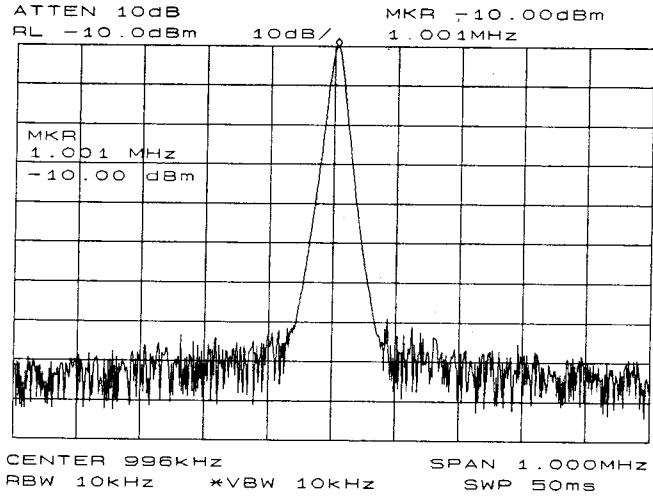

Figure 3-5. Input Signal Displayed in a 1 MHz Span
- Using the present setup, clear the markers from the screen by pressing **MKR**, then **MARKERS OFF**. Notice that when **MARKERS OFF** or **HOLD** is pressed, the display expands to the full size of the screen, for easier viewing. To measure the fundamental, press **PEAK SEARCH**, which activates a marker on the highest-level signal on-screen. Reduce the frequency span to 1 MHz by pressing **SPAN**, then **SPAN ZOOM** and entering 1 MHz. The span zoom function allows you to quickly “zoom” to a narrower frequency span without losing the signal from the screen (since signal track is activated). After the frequency span is reduced, turn off the signal-track function by pressing **MKR**, and setting **SIG TRK ON OFF** to OFF. Next, set the center-frequency step-size to the frequency of the fundamental by pressing **MKR ->**, then **MARKER -> CF STEP**. For better amplitude accuracy, move the signal to the top of the graticule by pressing **MARKER -> REF LVL**. The resulting display should resemble Figure 3-5.